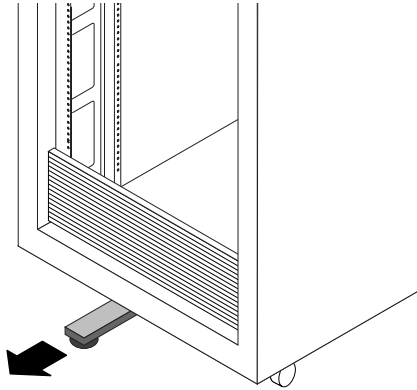

FIGURE 1-6 Extending the Anti-tip Foot
8. If available, extend the anti-tip foot at the bottom of the rack. (See FIGURE 1-6.)